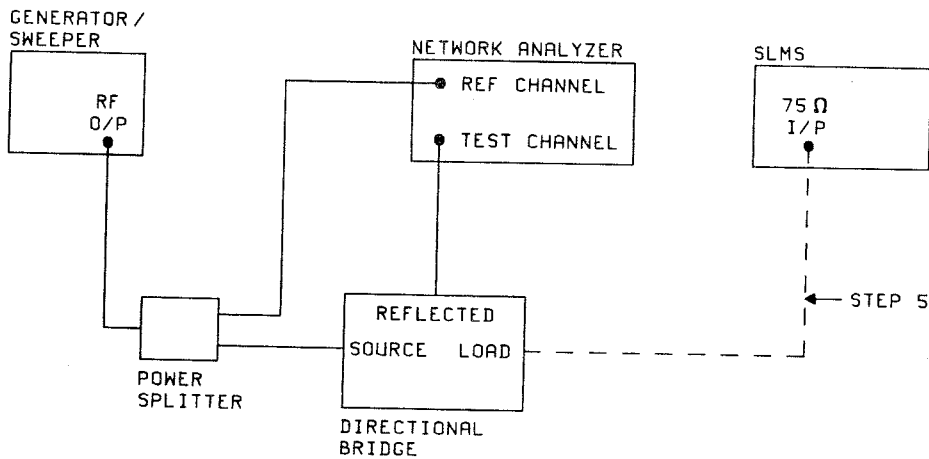

Figure 5-1 Return Loss Adjustment Test Set-up
3. Connect the test equipment as shown in Figure 5-1 with the recommended equipment controls set as follows: